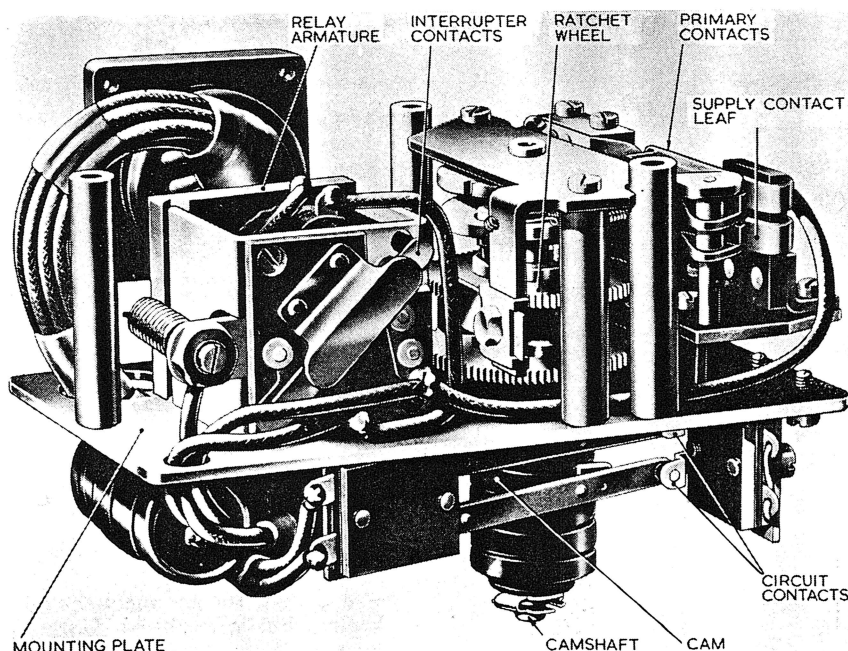

Fig. 2. Switch mechanism
3. Fixed to a mounting, an auto-relay is arranged to wind a pre-loaded clock type spring by means of a ratchet mechanism (fig. 2). The wound spring is free to drive a camshaft, the speed of